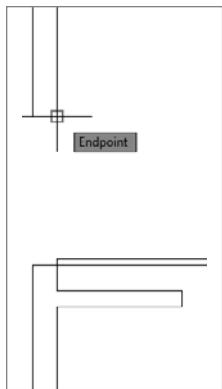

FIGURE 4.49 Specifying the start point for the ARC command
4. Activate the Endpoint osnap (enter **END**), and pick the right endpoint of the upper jamb line, as shown in Figure 4.49.